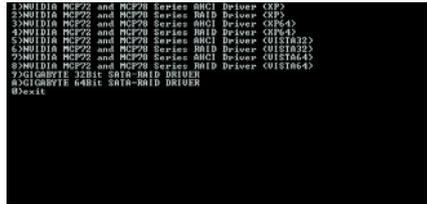

Figure 2
Step 2: When the controller menu (Figure 2) appears, remove the startup disk and insert the blank formatted disk. Select the controller driver by pressing the corresponding letter from the menu. For example, in the menu in Figure 2,
- In RAID mode, select 2) NVIDIA MCP72 and MCP78 Series RAID Driver (XP) for Windows XP 32-bit operating system or 4) NVIDIA MCP72 and MCP78 Series RAID Driver (XP64) for Windows XP 64-bit.
- In AHCI mode, select 1) NVIDIA MCP72 and MCP78 Series AHCI Driver (XP) for Windows XP 32-bit operating system or D) NVIDIA MCP72 and MCP78 Series AHCI Driver (XP64) for Windows XP 64-bit.
Use an alternative system and insert the motherboard driver disk. From your optical drive folder, double click the MENU.exe file in the BootDrv folder (Figure 3). A command prompt window will open similar to that in Figure 2.